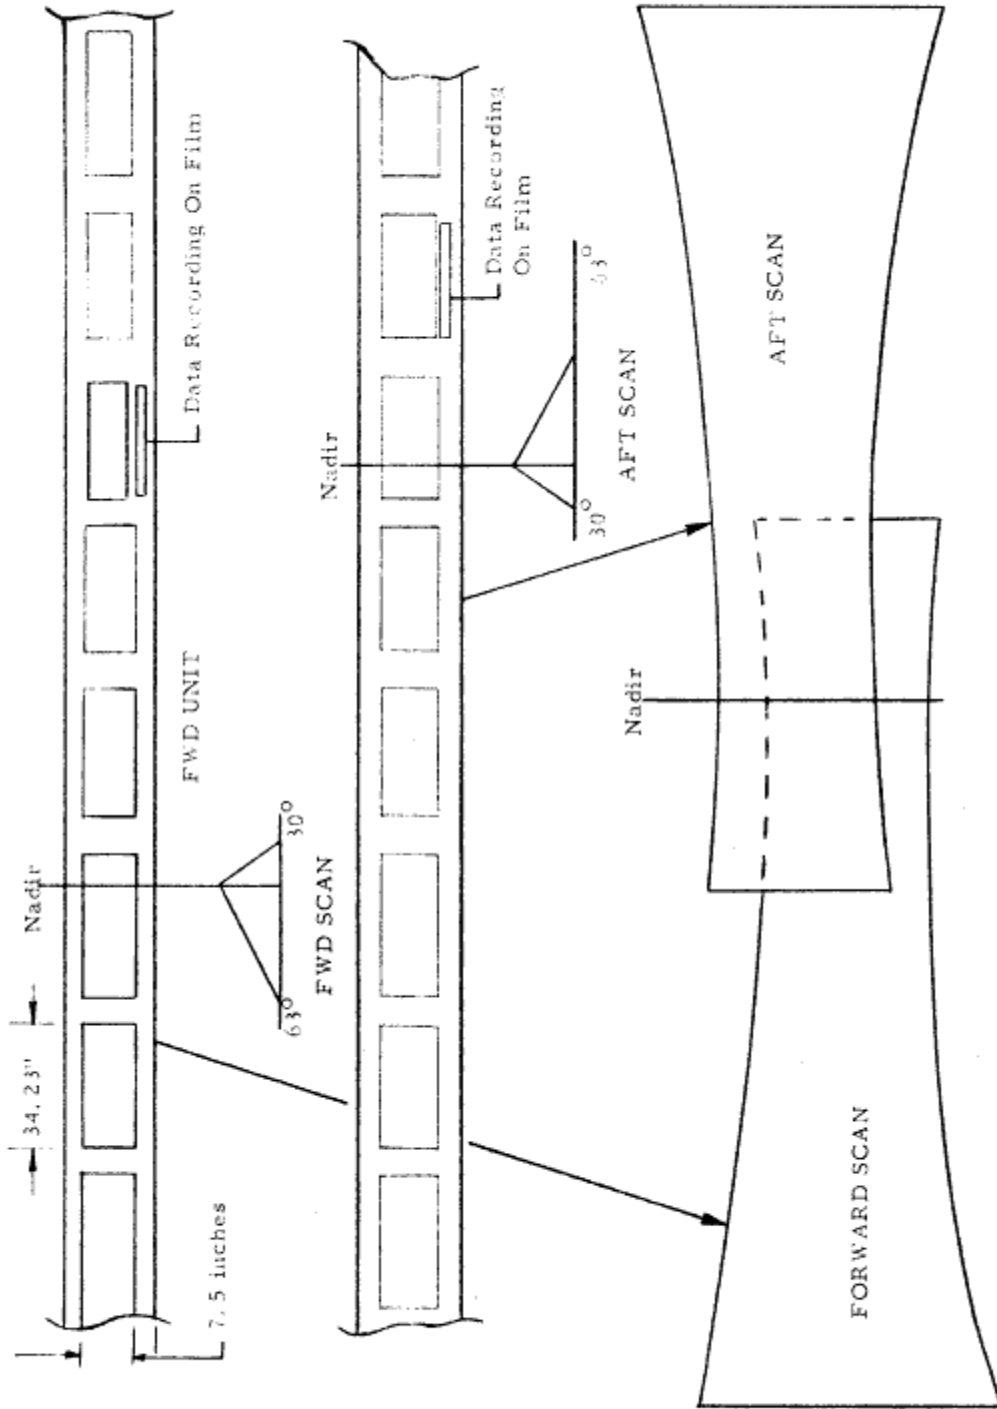

Figure 2-7. Type II Package Format Relationship To Ground Coverage Pattern
- 2-24. Results of the Type II camera systems are panoramic photographs as shown in Figure 2-7. Photographs from the forward camera and corresponding photographs from the aft camera are aligned as shown also in Figure 2-7 along with the associated data information recorded alongside of each frame. Approximately 1414 photographs with recorded data can be expected from a full film supply of 4200 feet from each camera. Film width is 7.95 inches. Individual frame dimensions are 7.5 inches by 34.23 inches.